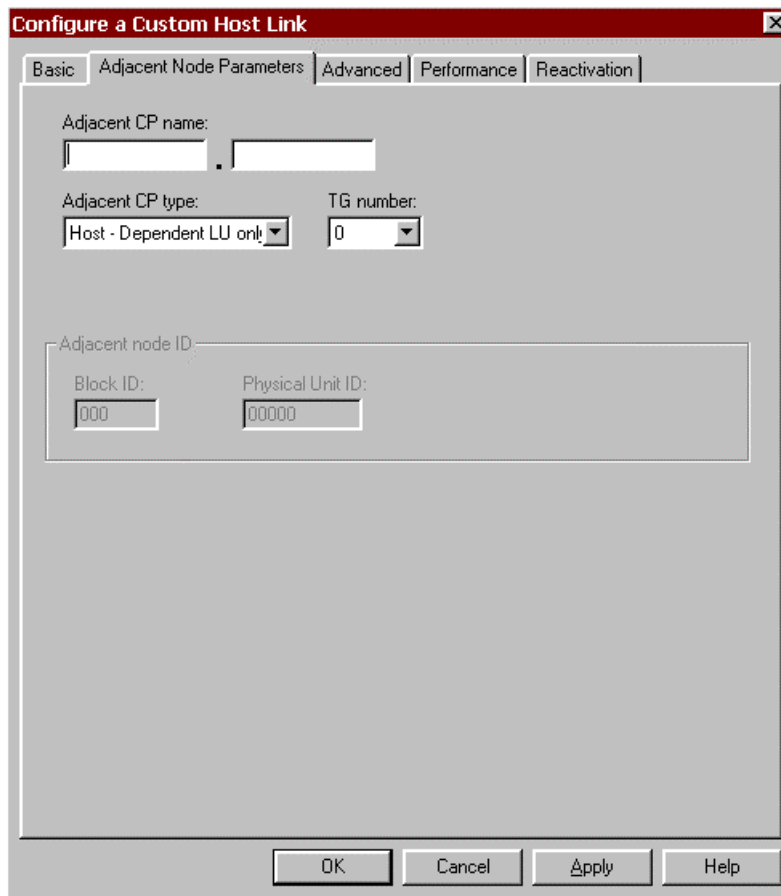

Figure 11-15. Configure a Custom Host Link - Adjacent Node Parameters
- **Host link name(PU profile name):** A default name will be automatically assigned by the system. You may accept the default, or enter your own name up to eight (8) characters in length. Host link name is the PU Profile or Service Name required by an IPX (QEL/MU) client emulator.
- **Port name (adapter):** By default the first custom data link adapter defined will be displayed. Select the adapter you wish to associate with this Host Link (PU) from the pull-down list. Keep in mind that the ESCON adapter associates the PU to the sub-channel address used to communicate with the host.
4. Click the **Adjacent Node Parameter** tab (Figure 11-15) to continue.